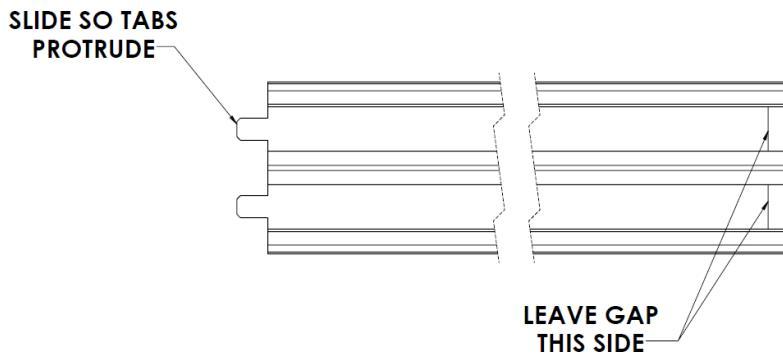

Figure 312: **Slide Metal Strips 1/2" Out of Plastic Insulator**
d. Slide the metal strips inside the TransStrip back so the male terminal tabs protrude from the plastic insulator (Figure 312).